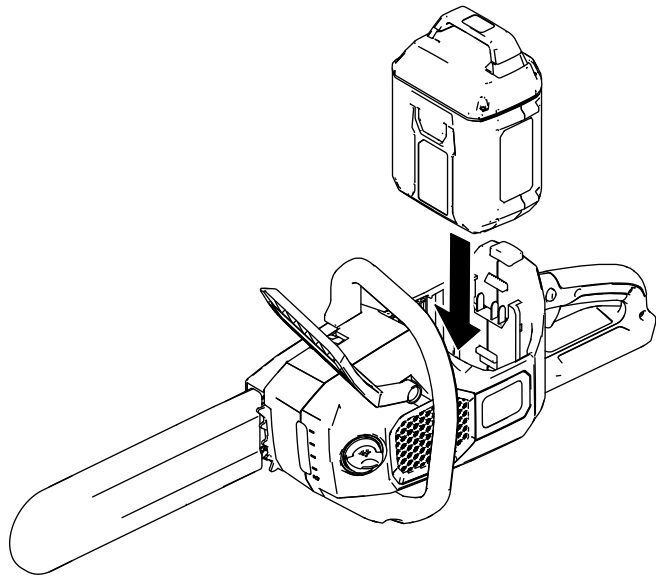

Figure 24
2. Align the tongue of the battery pack with the battery cavity in the chain saw (Figure 24).